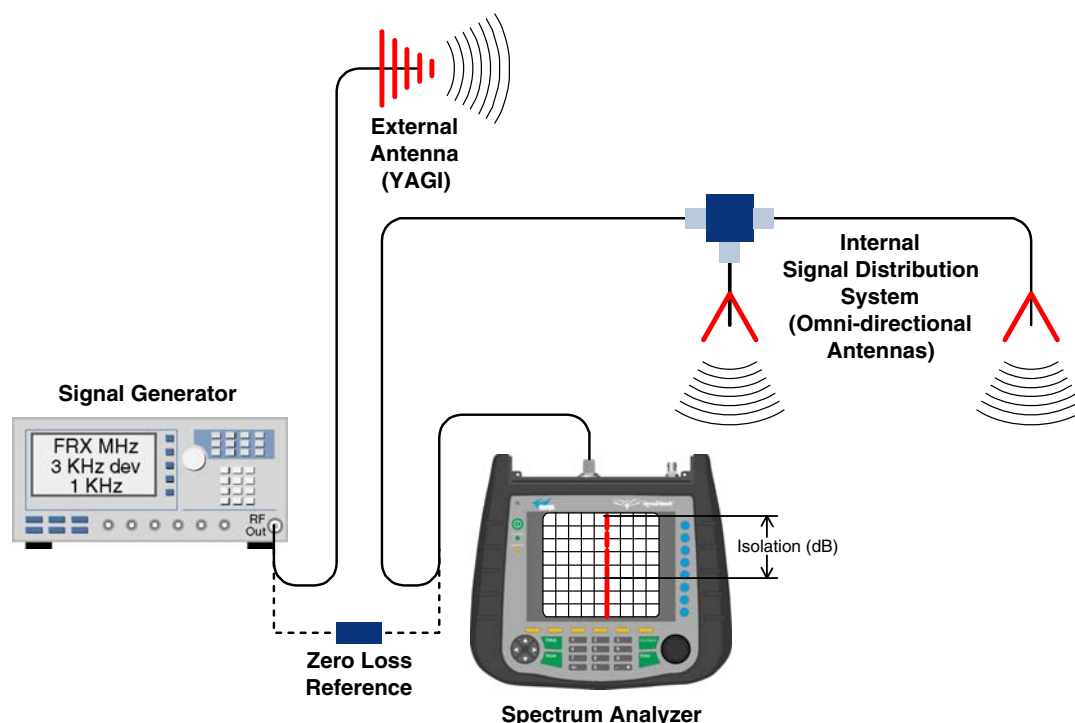

Figure 3: Typical test equipment interconnection for measuring antenna isolation.
- 3) Temporarily connect the test leads of the signal generator and spectrum analyzer together using a female barrel connector, see **Figure 3**. Observe the signal on the analyzer and adjust the input attenuator of the spectrum analyzer for a signal level that just reaches the 0 dBm level at the top of the graticule.
- 4) Referring to figure 3, connect the generator test lead to one side of the antenna system and the spectrum analyzer to the other then observe the signal level. The difference between the observed level and 0 dBm is the isolation between the sections. If the signal is too weak to observe, the spectrum analyzer's bandwidth